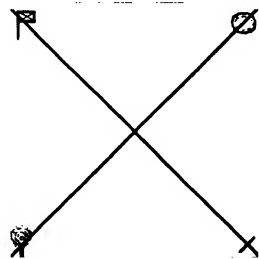

FIG. 5. PLAN OF GARDEN
1. The teacher draws a 2 ft. square on the blackboard and says, "This is the plan of a garden. What can you tell me about it? The scale is, 1 ft. stands for 100 ft.; how big is the garden? In one corner there is a seat; in another, a tree; in another, a flag; in the fourth, a pond." These are entered as they are mentioned and the children draw a copy on their own papers, scale 1 in.=100 ft., Fig. 5.